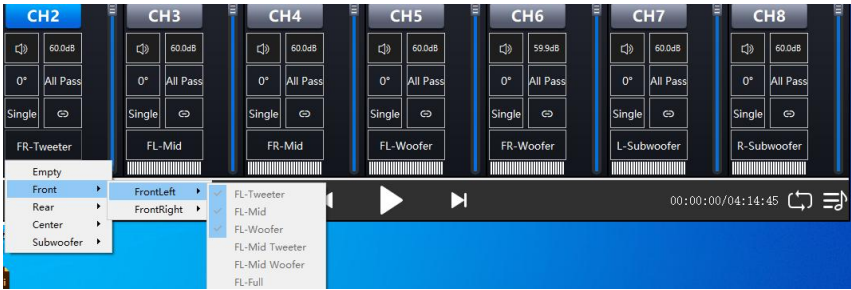

Figure 3.3.5
**The second step,** the channel number beneath each, click on the type drop-down menu box, select the option in the pop-up users locate the type of speaker. Figure 3.3.5 as follows: